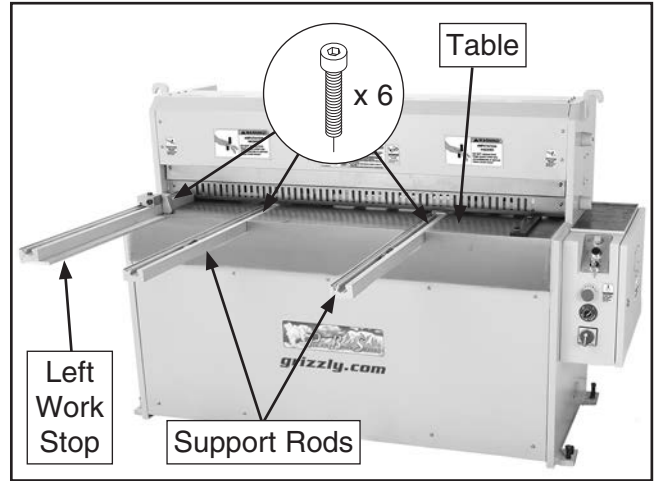

Figure 17. Workpiece support rods and left work stop attached to table.
2. Attach (2) workpiece support rods and left work stop to table using (6) M8-1.25 x 16 cap screws (see **Figure 17**).